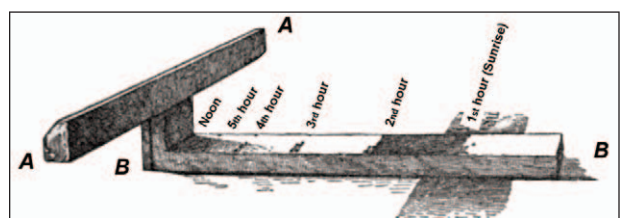

Fig. 1. Early Egyptian Shadow Clock (circa 1500 BC).
Most historians credit the Egyptians with being the first civilization to use clocks. Their first clocks were probably nothing more than sticks placed in the ground that indicated time by both the length and direction of their shadow. As early as 1500 BC, the Egyptians had developed a more advanced shadow clock (Fig. 1). This T-shaped instrument was placed in a sunlit area on the ground. In the morning, the crosspiece (AA) was set to face east and then rotated in the afternoon to face west. The long arm (BB) was calibrated into six parts with a scale that formed what was probably the first representation of what we now call the hour. The morning and afternoon hours combined to form the twelve-hour day, reflecting Egypt’s early use of the duodecimal (base 12) number system. The number twelve was important for at least two reasons. It equaled the number of lunar cycles in a year and the number of joints in four fingers (excluding the thumb), making it possible to count to twelve with one hand [1].